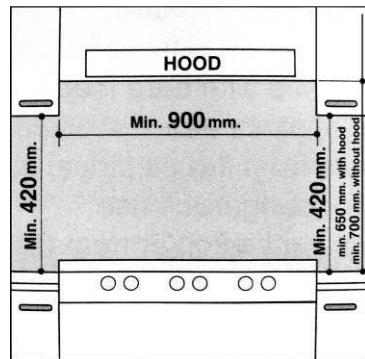

Fig.5
c) The cabinets should be positioned near to the hood at a height of 420 mm at least (Fig. 5).